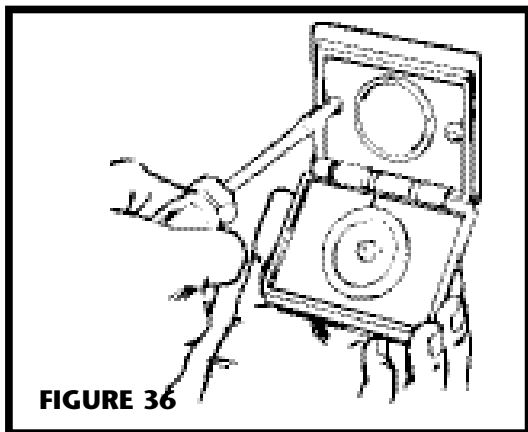

FIGURE 36
6. Insert wall inlet into bracket and secure with the two screws provided (Figure 36).